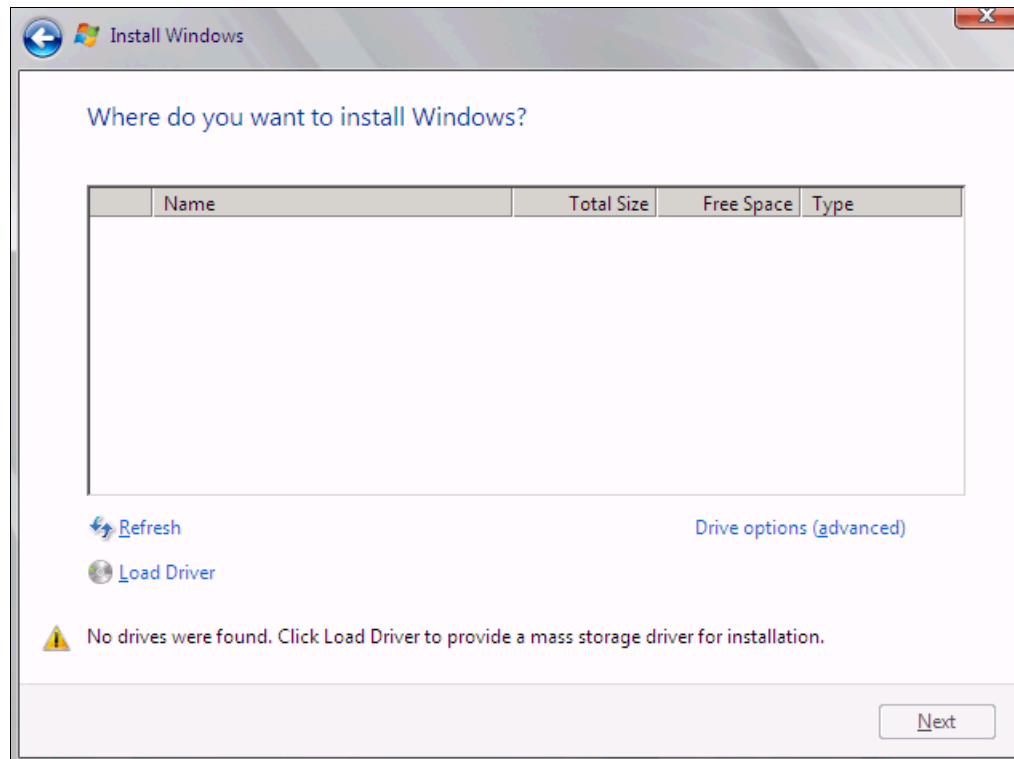

Figure 9-168 No disk shown
12.If no disks are displayed (Figure 9-168), insert the media that contains the drivers. The media can be in the form of a USB key, CD, or DVD, on a remotely mounted ISO. Then click **Load Driver** to load a driver for your storage device (QLogic card).